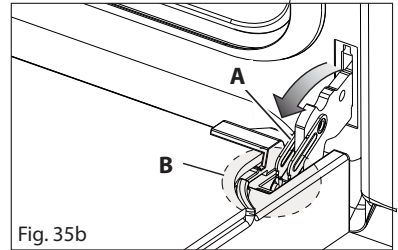
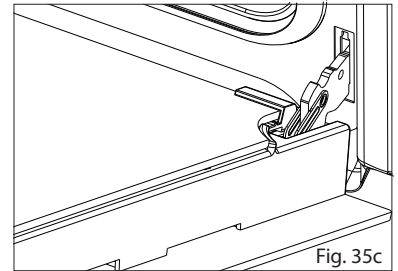

Fig. 35b
Fig. 35c
- Open the lever **A** completely on the left and right hinges (fig. 35b).
- Gently close the door (fig. 35c) until left and right hinge levers **A** are hooked to part **B** of the door (fig. 35b).